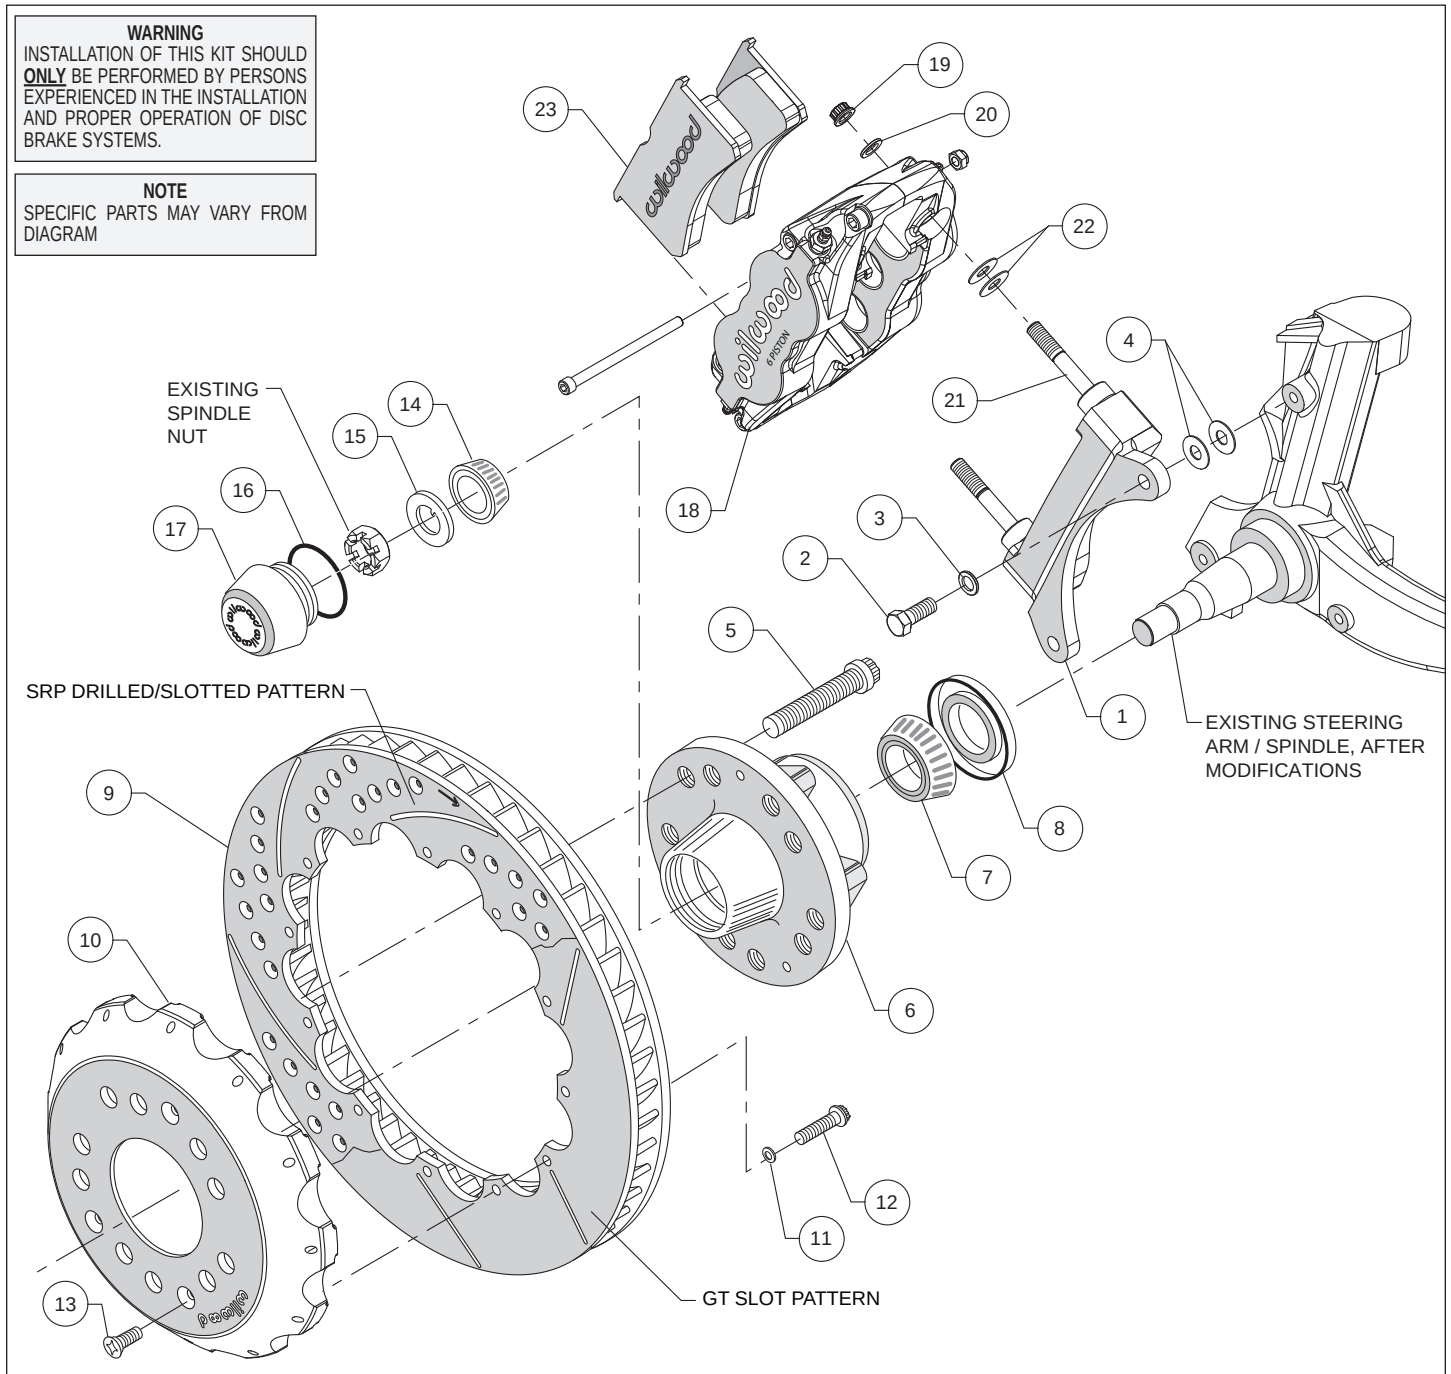
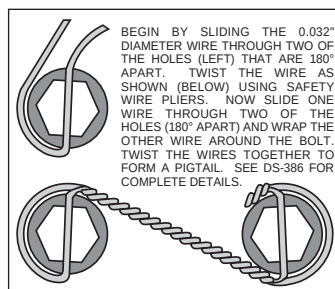

Figure 2. Typical Installation Configuration
Figure 4. Safety Wire Diagram
Assembly Instructions (numbers in parenthesis refer to the parts list and Figure 2 on the preceding pages):
- The caliper mount bracket (1) should initially be installed with clean, dry threads on the mounting bolts. Orient the bracket as shown in Figure 2 and Photo 1, and install using bolts (2) and washers (3). Initially place two .035" thick shims (4) on each bolt between the bracket and upright, Figure 2. Temporarily tighten the mounting bolts. **NOTE:** The bracket must fit squarely against the mounting points on the spindle. Inspect for interference from casting irregularities, machining ridges, burrs, etc. Later, after the caliper alignment has been checked, the mount bolts will be secured using red Loctite® 271.
- Pack the large inner bearing cone (7) with high temperature disc brake bearing grease (available from your local auto parts store) and install into the backside of the hub (6), Photo 3.
- Install the grease seal (8) by pressing into the backside of the hub (6), flush with the end of the hub, Photo 3.
- Orient the rotor (9) and the hat (10) as shown in Figure 2 and Photo 4. Attach rotor to hat using bolts (12) and washers (11). Using an alternating sequence, apply red Loctite® 271 to the threads, and torque to 155 in-lbs. For an added measure of security, the bolts may be safety wired using standard 0.032 inch diameter stainless steel safety wire as shown in Figure 4. Refer to Wilwood's data sheet DS-386 (available at www.wilwood.com/Pdf/DataSheets/ds386.pdf) for complete safety wire installation instructions.
- **NOTE:** This kit contains distinct right and left hand calipers that must be mounted in a specific direction, as described below. Lubricate the caliper mounting studs (21) with lightweight oil. Initially place two .035" thick shims (22) on each stud between the caliper and the bracket, as shown in Figure 2 and Photo 7. Mount the caliper (18) onto the bracket (1) using lock nuts (19) and washers (20), Figure 2. Ensure that the caliper is mounted so the largest pistons are at the rotor exit end of the caliper, in relation to the direction of rotor rotation. Temporarily tighten the lock nuts and view the rotor through the top opening of the caliper. The rotor should be centered in the caliper, Photo 8. If not, adjust by adding or subtracting shims (4) between the bracket and the spindle. Always use the same amount of shims on each of the two mounting bolts. Once the caliper alignment is correct, remove the bracket mounting bolts one at a time, apply red *Loctite*® 271 to the threads, and torque to 40 ft-lb.